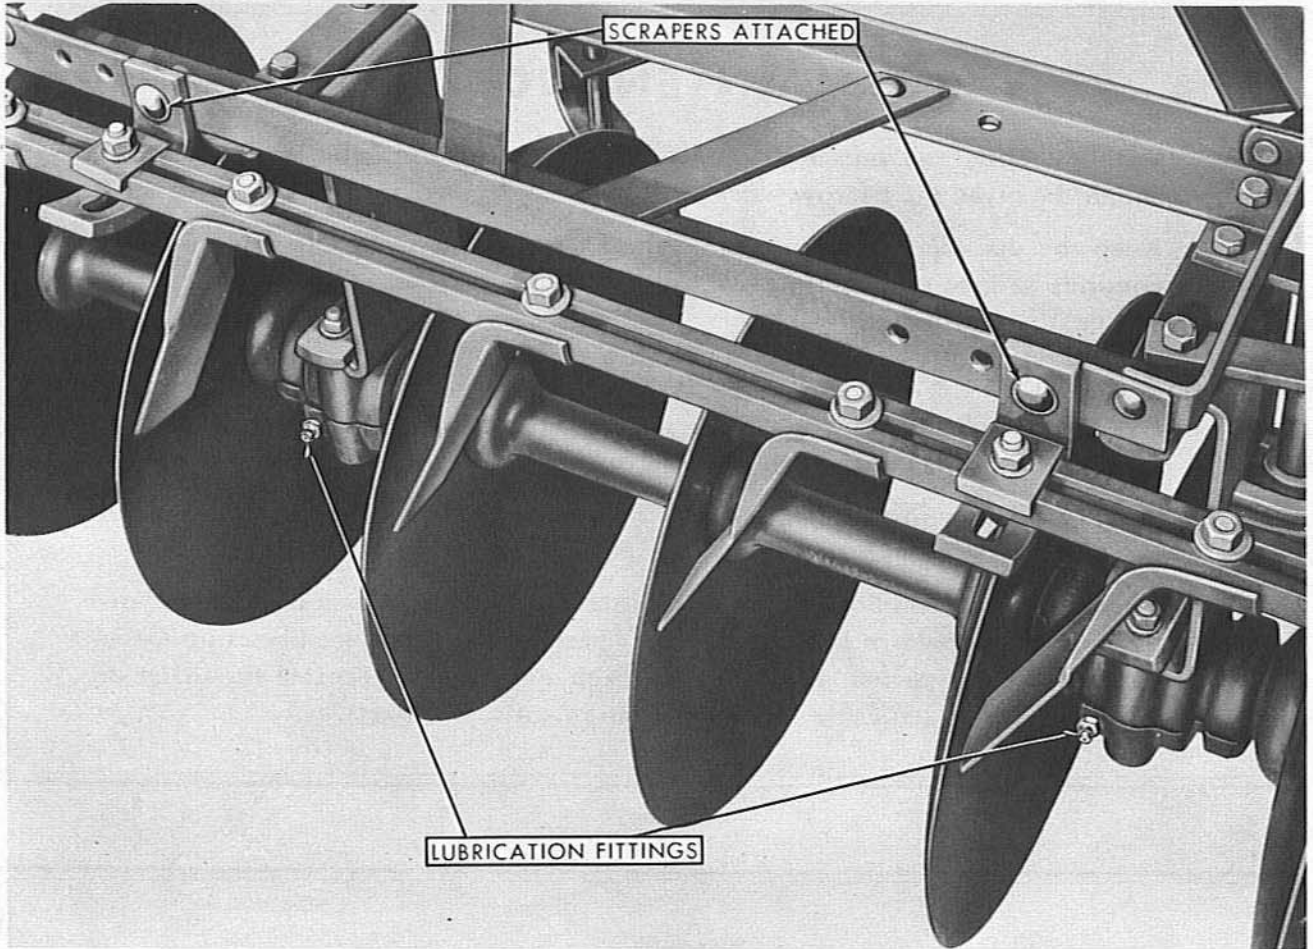

Figure 9
5. If scrapers are to be used on the harrow, attach them to the weight boxes as shown in Figure 9.
There are eight grease fittings on the Dearborn Pull Type Tandem Disc Harrow. One each of these is located on the disc bearings as shown in Figure 9.
**Scrapers:** The scrapers are adjustable individually or by gangs. To make individual scraper adjustments, loosen the nut on the bolt which holds the scraper to the scraper rail. See Figure 9. Reposition the scraper as desired and tighten the nut securely. To adjust the scrapers by gangs, loosen the two bolts which hold the scraper rails to the brackets and reposition the scraper gangs as desired. Retighten the nuts on the bolts securely.